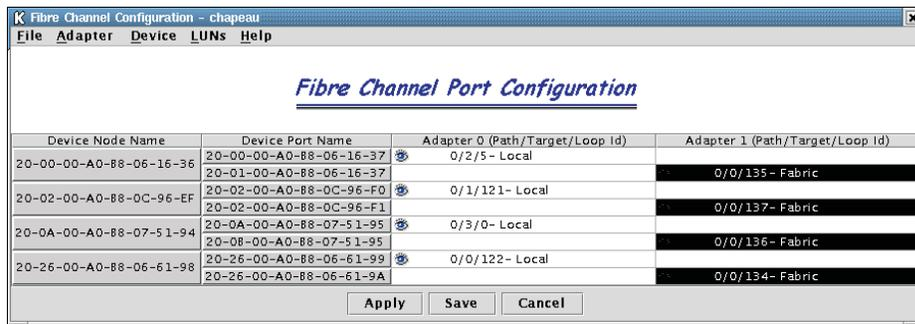

Figure 140. Fibre Channel Port Configuration
5. Select CONFIGURE. You will then be presented with the Fibre Channel Port Configuration dialog (see Figure 140).